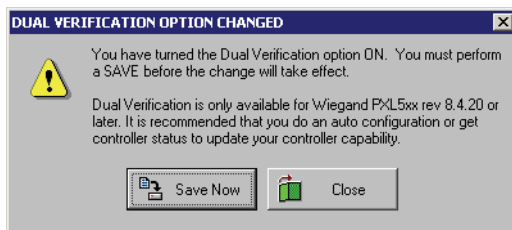

Figure 14-2: Dual Verification Option Changed Window – ON
3. Click on the **Dual Verification ON** box. A check mark appears in the box. Because the changes required to implement dual verification make major changes to the *Doors* program and its supporting databases, a confirmation window appears (see Figure 14-2).